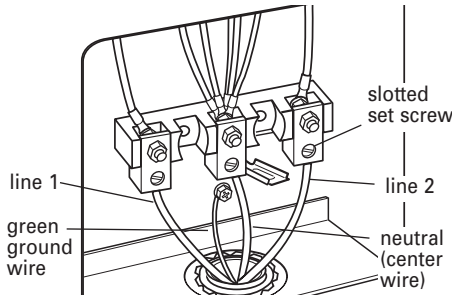

Figure 2
11. Connect the green ground wire from power supply cable to the range using the ground screw and cup washer. The ground wire must be attached first and must not contact any other terminal. See Figure 2.
12. Loosen (do not remove) the 3 slotted set screws. Insert the neutral (white) wire into the hole at the bottom of the center position terminal lug (attached to center terminal screw black terminal block). See Figure 2.
14. Securely tighten the set screws. For 8 gauge copper wire, tighten to 25 in/lbs of torque, and for 6 gauge aluminum wire, tighten to 35 in/lbs of torque to make a proper electrical connection. See Figure 2.